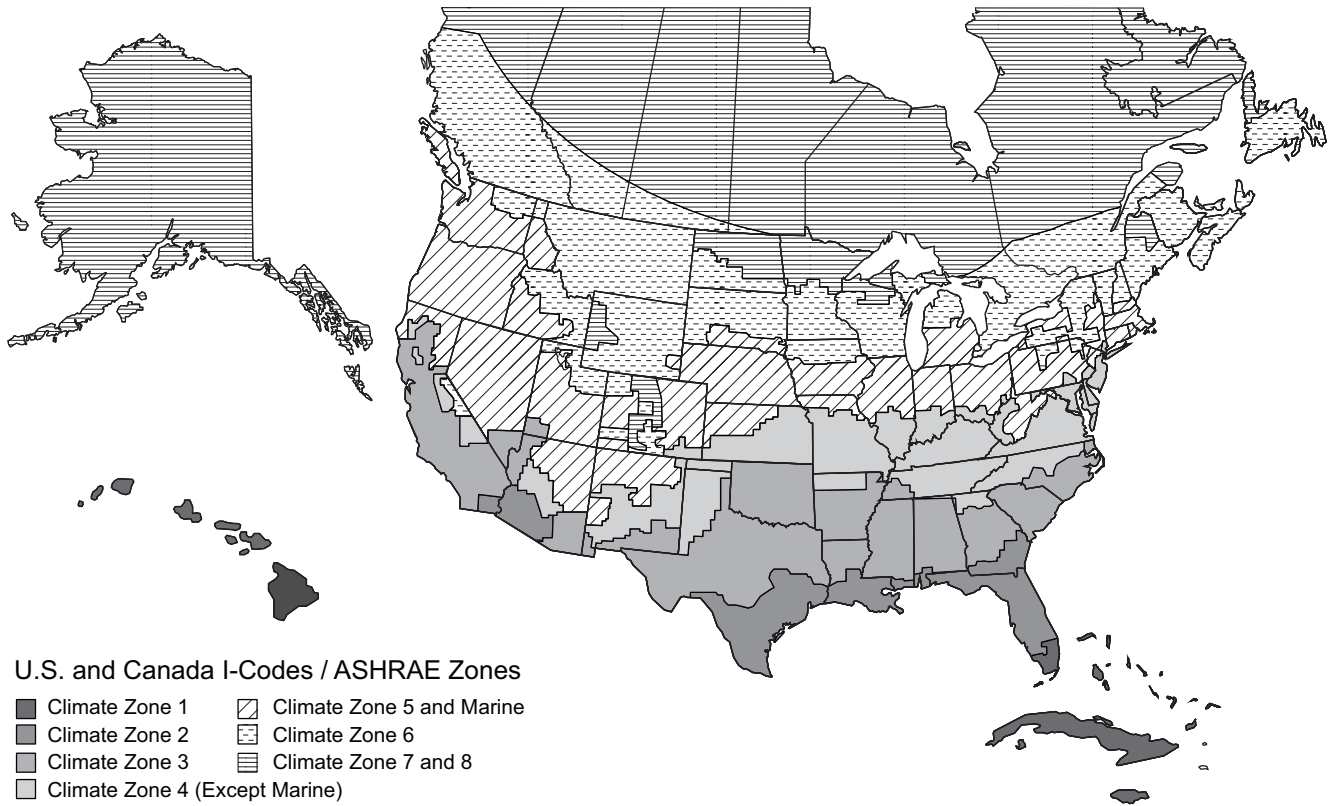

Fig. 95 — U.S. and Canada Climate Zones
- a. See Fig. 95 for map of U.S. and Canada climate zones.